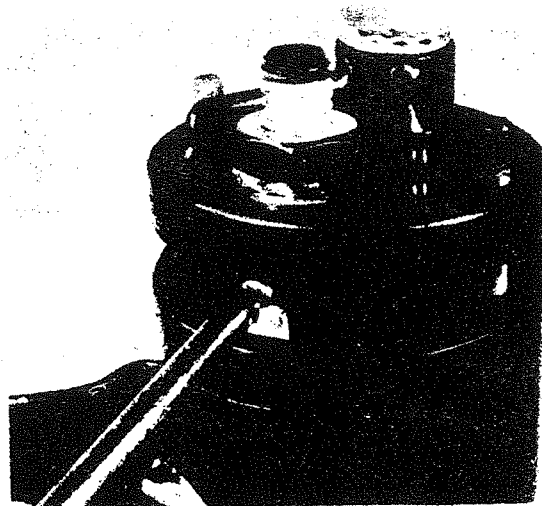

Figure 33
- 16.13 Pass the two terminals through the #1 and #4 terminal holes in the plastic end base and connect the loose terminal to the #3 contact stud with a #6 self tapping screw. See figure 33. Insure that the short contact stud is on the bracket side of switch.